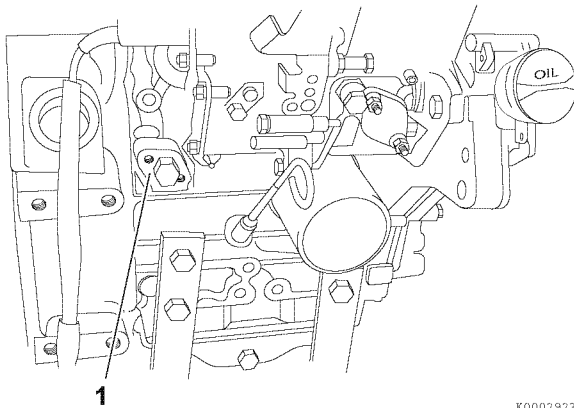

Figure 5-17
4. Drain the coolant from the engine block. Remove the coolant drain plug (1, **Figure 5-17**) from the engine block.